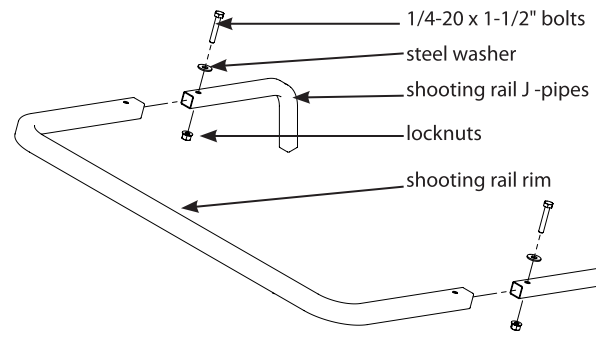

Figure 6
8. Insert the shooting rail J-pipes (410113) into the shooting rail rim (10394). Secure together using (2) provided 1/4-20 x 1-1/2" bolts, locknuts and steel washers. **SEE FIGURE 6.** You must now tighten all nut and bolt assemblies. **Be sure not to over tighten or crush tubing when tightening!**